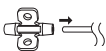

Figure 5. Attaching the v-wing anchor.
17. Slide the v-wing anchor onto the spinal segment (Figure 5 on page 10) and continue sliding the anchor down as close as possible to the fascia entry point.